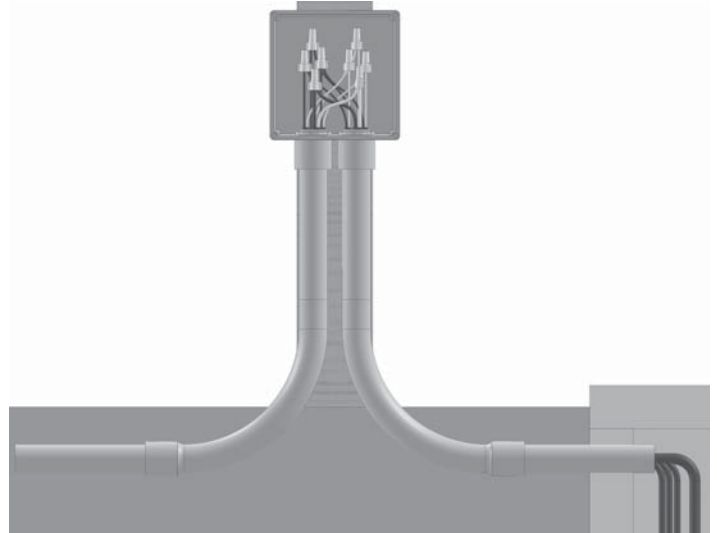

FIGURE 5
6. Determine location for mounting junction box according to local code requirements. See **Figure 5**. **Do not** mount the junction box inside the sump or basin.